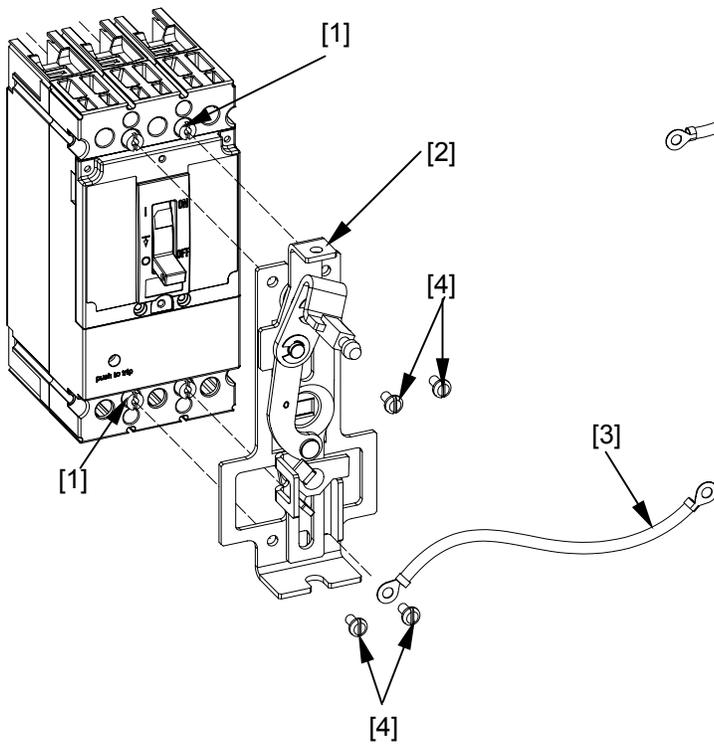

Figure 4. Mounting the mechanism base assembly onto the breaker.
3. Place the base-crank assembly [2] on the breaker, as illustrated in Figure 4. Insert four #8-32 x 0.312" screws [4] through the mounting holes in the base and into the heads of the breaker mounting screws [1], with the grounding wire [3] attached to one of the screws. Tighten the screws to 16 - 20 in-lb. Secure the other end of the grounding wire to a suitable ground location.